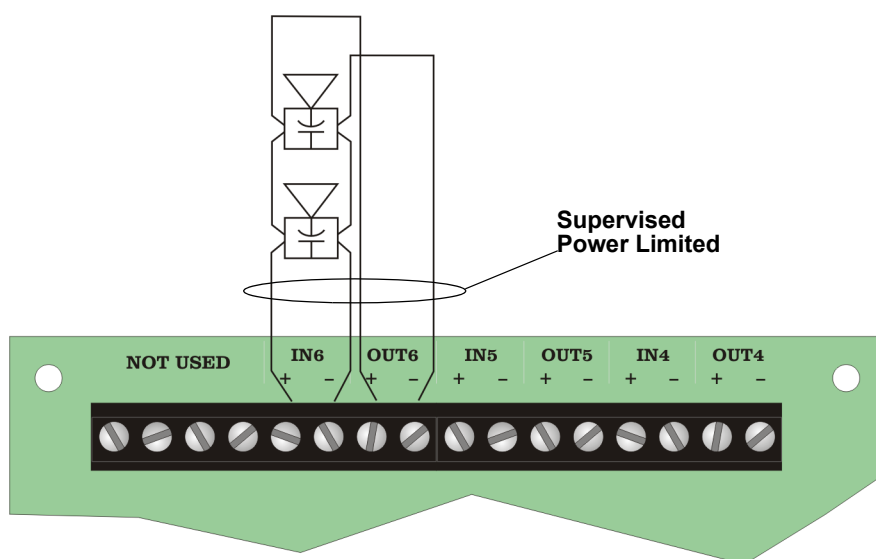

**Figure 6-5 Class B (Style Y) Speaker Configuration**
Figure 6-5 illustrates how to wire speakers to the control panel using Class B (Style Y) supervision.
*Note: Figure 6-5 uses Speaker Loop 5 as an example of the wiring. All other speaker loops are configured in the same manner to their respective OUT terminals.*